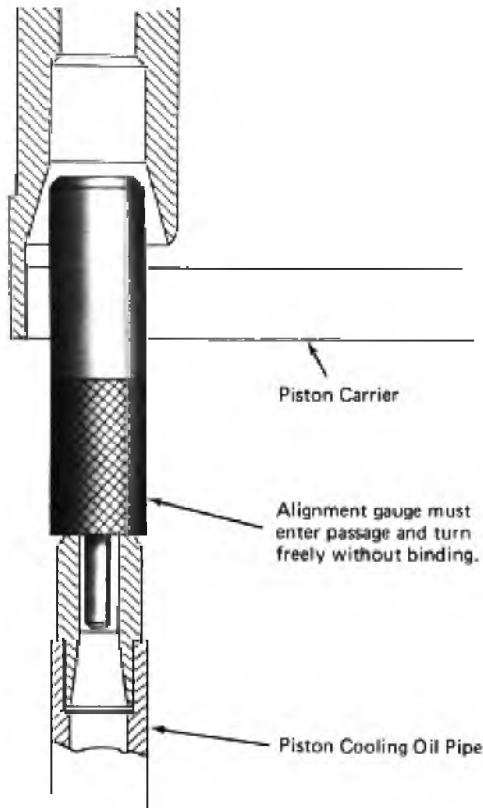

Fig. 5-26 - Piston Cooling Oil Pipe Alignment
90. Check proper alignment of the piston cooling oil pipe by placing the alignment gauge into the nozzle of the pipe, Fig. 5-26. Bar over the engine to bottom dead center of the cylinder being checked. At the same time, rotate the gauge to make sure it does not bind in the carrier hole.
59. Check proper alignment of the piston cooling oil pipe by placing the alignment gauge into the nozzle of the pipe, Fig. 5-26. Bar over the engine to bottom dead center of the cylinder being checked. At the same time, rotate the gauge to make sure it does not bind in the carrier hole.